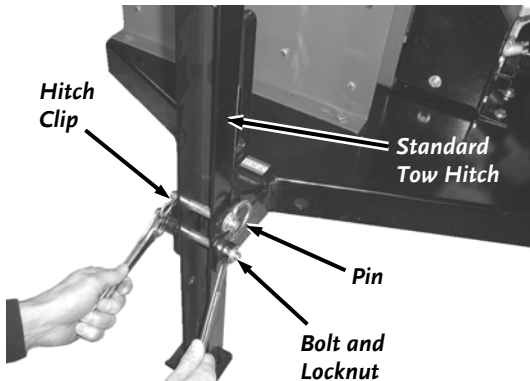

Figure 54
2. Remove the Bolt and Locknut from the Frame and Standard Tow Hitch with two 3/4" wrenches (**Figure 54**).